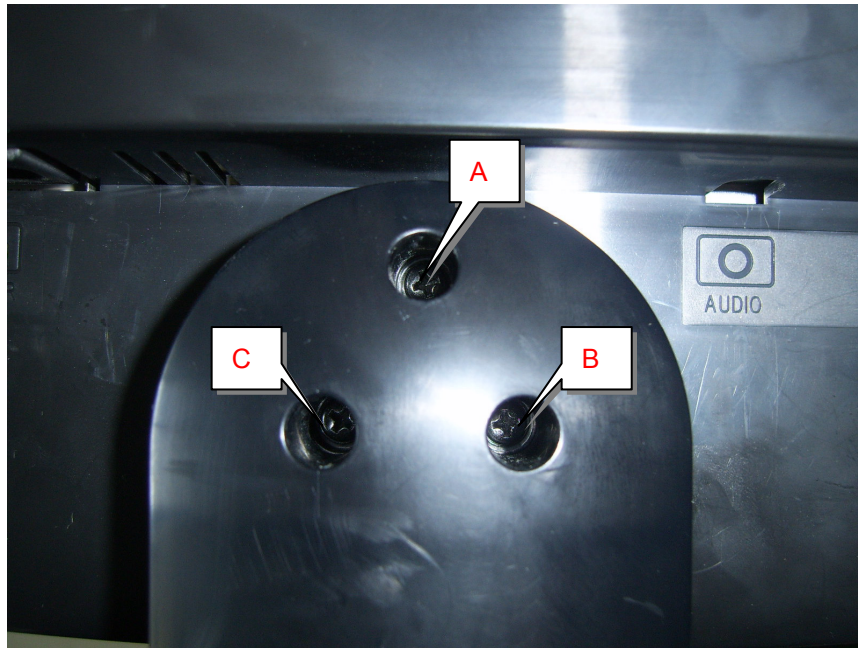

Fig 1
1. Remove hinge cover, then remove two screws marked A-C to remove base. (Fig 1)